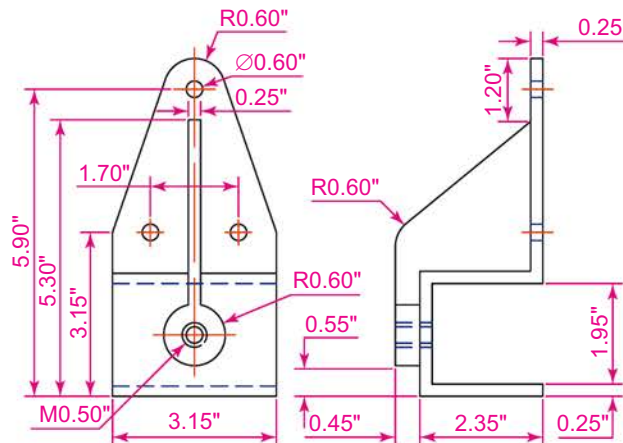

Fig. 9.47 Exercise 6
6. Construct a 3D solid model of a bracket working to the information given in Fig. 9.47.